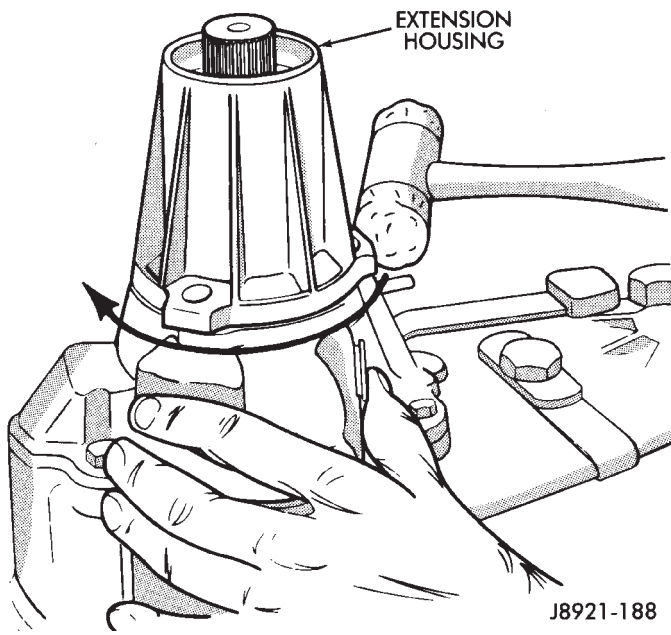

Fig. 1 Extension Housing Removal
(1) Remove fill and drain plugs.
(2) Remove front yoke. Discard yoke seal washer and nut. They should not be reused.
(3) Move transfer case range lever rearward to 4L position.
(4) Remove extension housing attaching bolts.
(5) Tap extension housing in clockwise direction to break sealer bead and remove housing (Fig. 1).